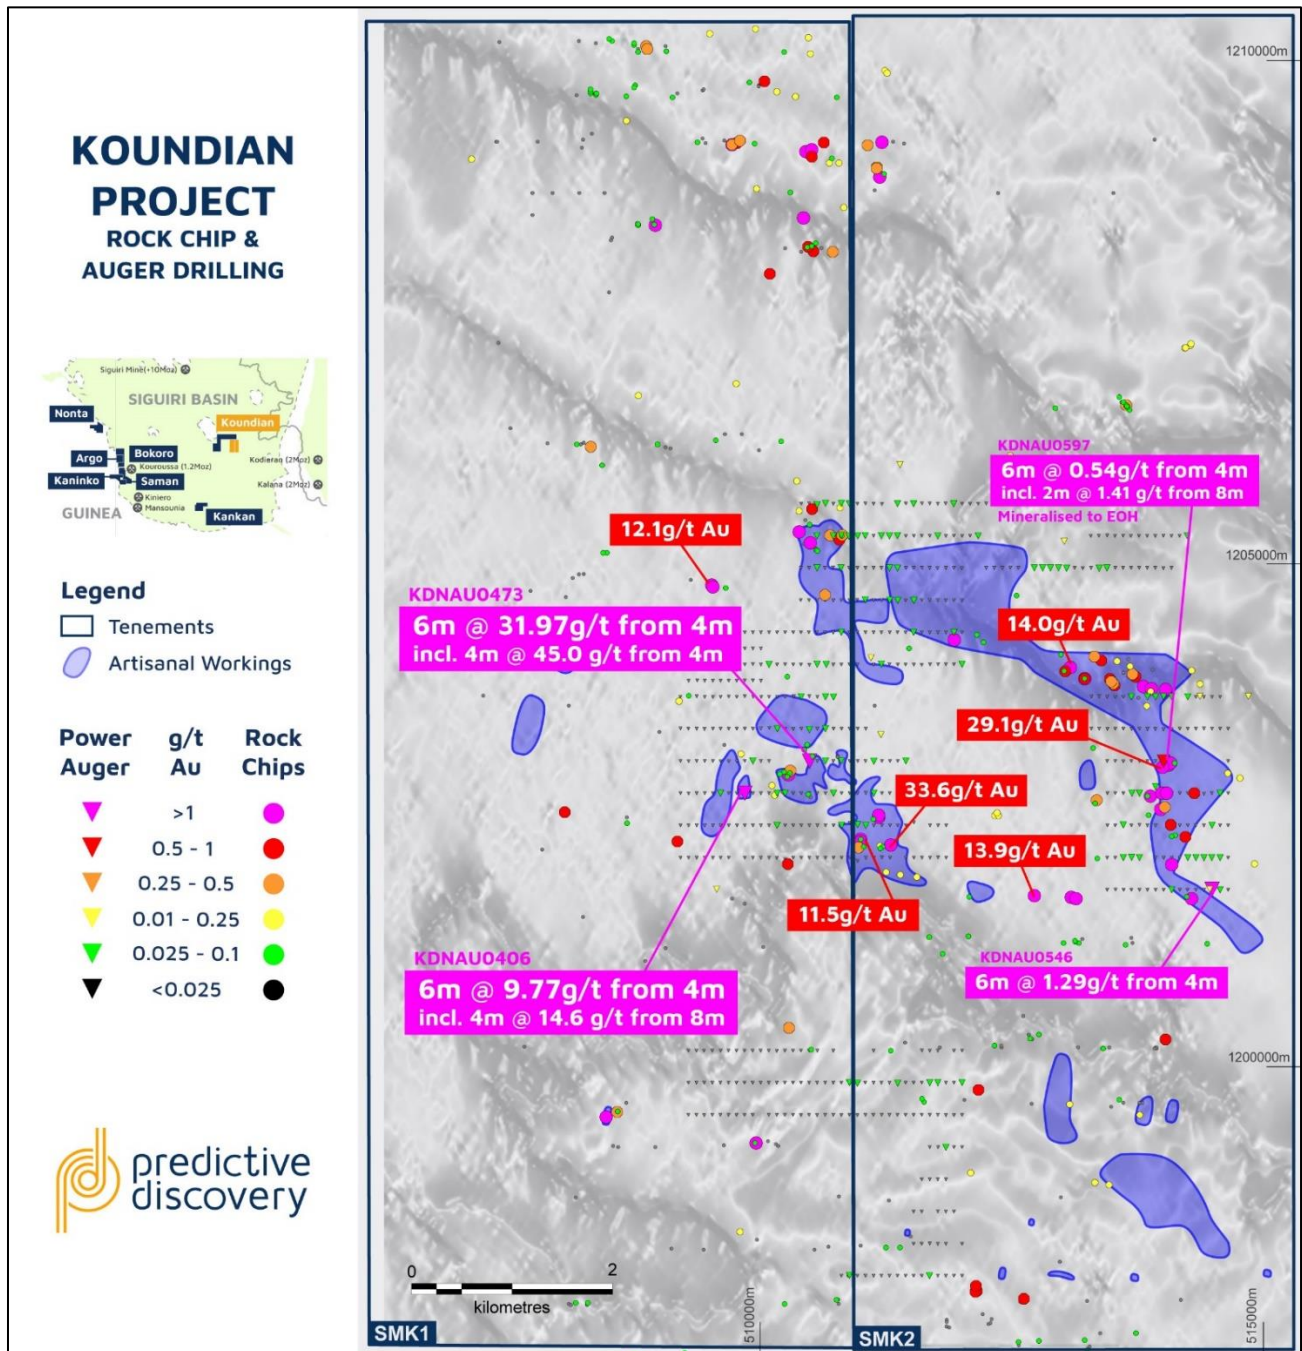

Figure 3 - Koundian Project, power auger and rock chip sample locations and mapped artisanal workings overlain on greyscale aeromagnetic image.
- A large power auger program was undertaken, testing targets defined by the aeromagnetic survey and geological mapping (Fig. 3).
- Geological mapping and sampling were also carried out, with 530 rock samples collected across the permits (Fig. 3).